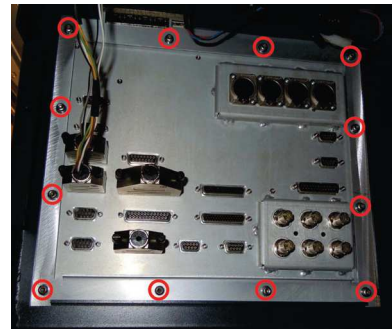

Fig. 7.12 12 screws
- 5 From the bottom of the cabinet, remove 12 Torx T20 screws holding the External I/O board (tools 1/8). The position of the screws is shown in Fig. 7.12 \(p. 120\).